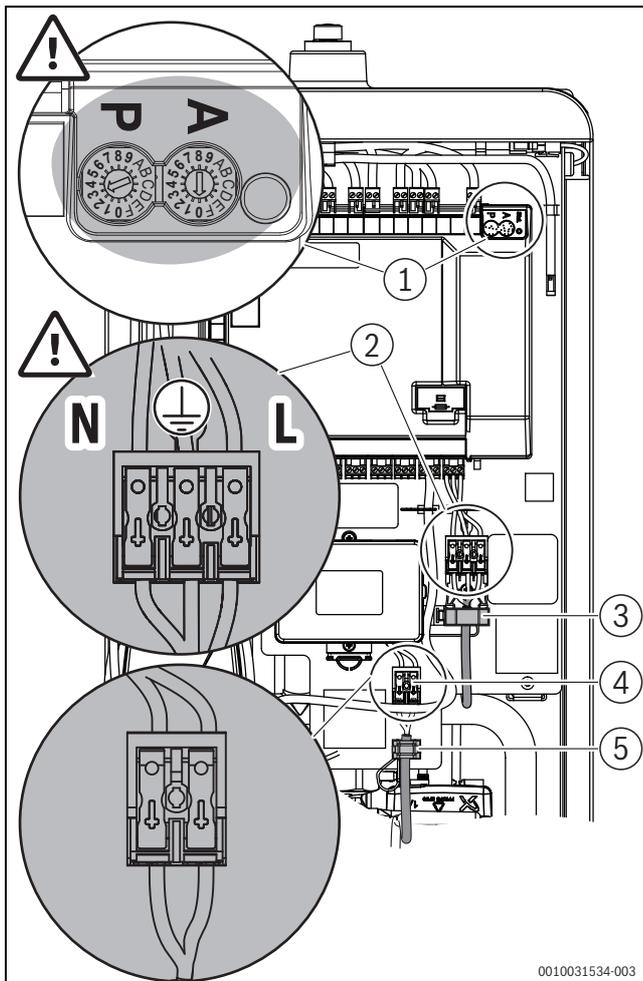

Fig. 30 Connecting the mains power supply and booster heater control cable
A cable of the type H05V2V2 F, 3x1.5 mm² which is 2.5 m in length is connected as standard to the mains power supply terminal (→ Fig. 30). Alternatively an on-site connection can be established using a suitable cable.
- ▶ Connect the mains power supply via the mains power supply terminal on the retaining plate (→ Fig. 30, [2]).
- ▶ Make sure the potentiometer setting is correct for hybrid application (**P=3 and A=0**) as shown in Fig. 30, [1]. If necessary, turn the direction arrow to the corresponding position with a screwdriver.